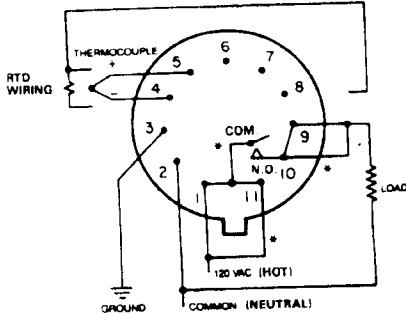

Figure 2-4. Model 6102 Wiring Diagram (Time Proportional)
2.5 WIRING POWER CIRCUIT (See Figures 2-4 and 2-5)
The Thermocouple negative (-) lead is colored red. See Figures 2-4 and 2-5.
The RTD sensor common lead is colored red. See Figures 2-4 and 2-5.
5. Connect 120 VAC power to controller (see paragraph 2.5 wiring power circuit). See Figures 2-4 through 2-6.